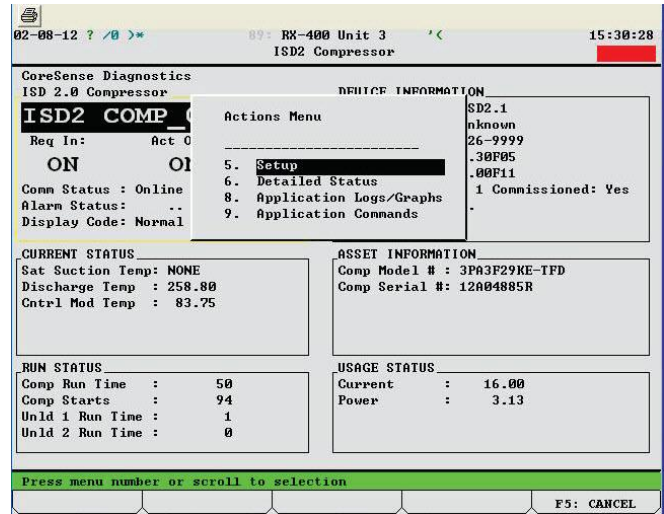

Figure 27 - Compressor Information Screen
1. After navigating the setup screens and making the desired changes return to the CoreSense Diagnostics summary screen as shown in **Figure 27**.
The E2 screen should now look like **Figure 27**.
This screen provides additional compressor information such as the model and serial number. It also provides run history information such as compressor run time and the number of compressor starts. If the compressor is equipped with unloaders the unloader run time will also be displayed. For more detailed information about each compressor highlight the compressor name as shown on **Figure 27** and press Enter. Press 6 (Detailed Status).